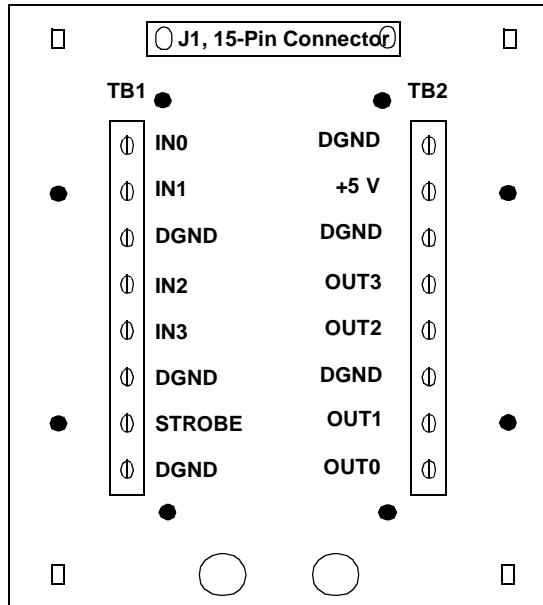

Figure 7: Layout of the STP15 Screw Terminal Panel
The 15-pin connector provides access to the signals from connector J2 on the DT3162 board. Figure 7 shows the layout of the STP15 and the screw terminal descriptions.
**Notes:** In Figure 7, IN refers to digital input signals, OUT refers to digital output signals, STROBE refers to strobe output signal, DGND refers to digital ground signals, and +5 V refers to a +5 V (100 mA) output signal from the DT3162 board.
The dark filled circles in Figure 7 represent holes that you can use to mount the STP15 on a DIN rail. To mount the STP15 on a DIN rail, you need two DIN rail mount adapters (Phoenix Contact part number 1201578 or Data Translation part number 18083), and four thread form screws (Bossard part number BN2724M3x8 or Data Translation part number 18193).